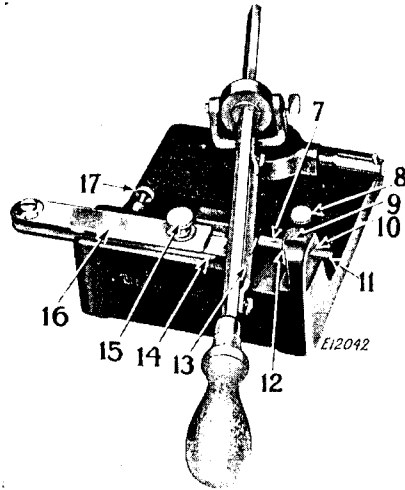

Fig. 24. Knife Hone 259283 with Knife in Position Ready to Sharpen
For 30° cutting angle knives the lower knife stop pin (7, Fig. 24) should be set flush with the outside surface of the casting (10, Fig. 24) so that the pin extends to the left toward the knife holder slide. Larger cutting angles may be obtained by moving the knife stop pin (7, Fig. 24) to the right. When flush with the inside surface of the casting (12, Fig. 24), the cutting angle will be honed to 45°.
The knife stop pin (11, Fig. 24) not being used should be set as far as possible to the right, then tighten screws (8 and 9, Fig. 24).
Clamp knife into position on knife holder (14, Fig. 24) and tighten thumb screw (15, Fig. 24), slide holder (16, Fig. 24) into position on base until knife rests against the stop pin (7, Fig. 24), tighten knife holder set screw (17, Fig. 24), place hone (13) in position as illustrated in Fig. 24 and proceed to hone knife. Care should be taken not to press down too heavily on the knife.